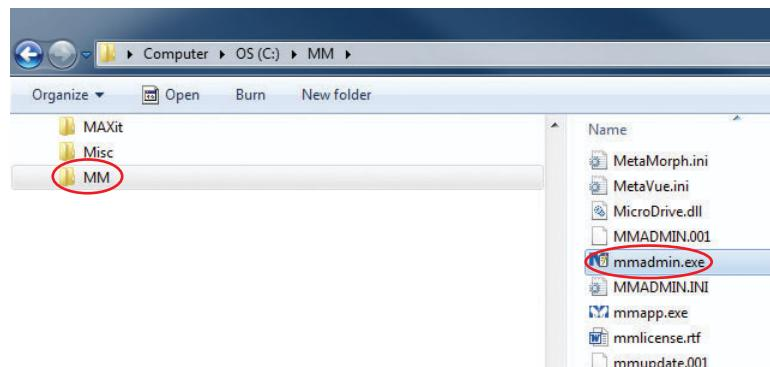

Figure H-7. Run the .exe File
2. Start the Meta Imaging Series Administrator by double-clicking the **mmadmin.exe** file, shown in Figure H-7: